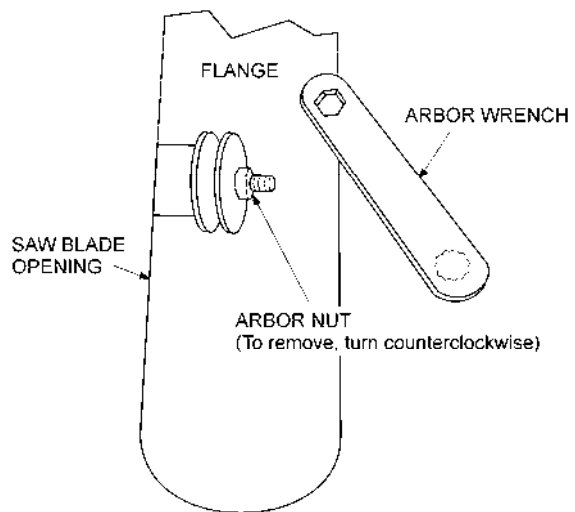

Figure 20
2. Raise the arbor to its highest point and remove the arbor nut, shown in Figure 20, by turning nut counterclockwise.